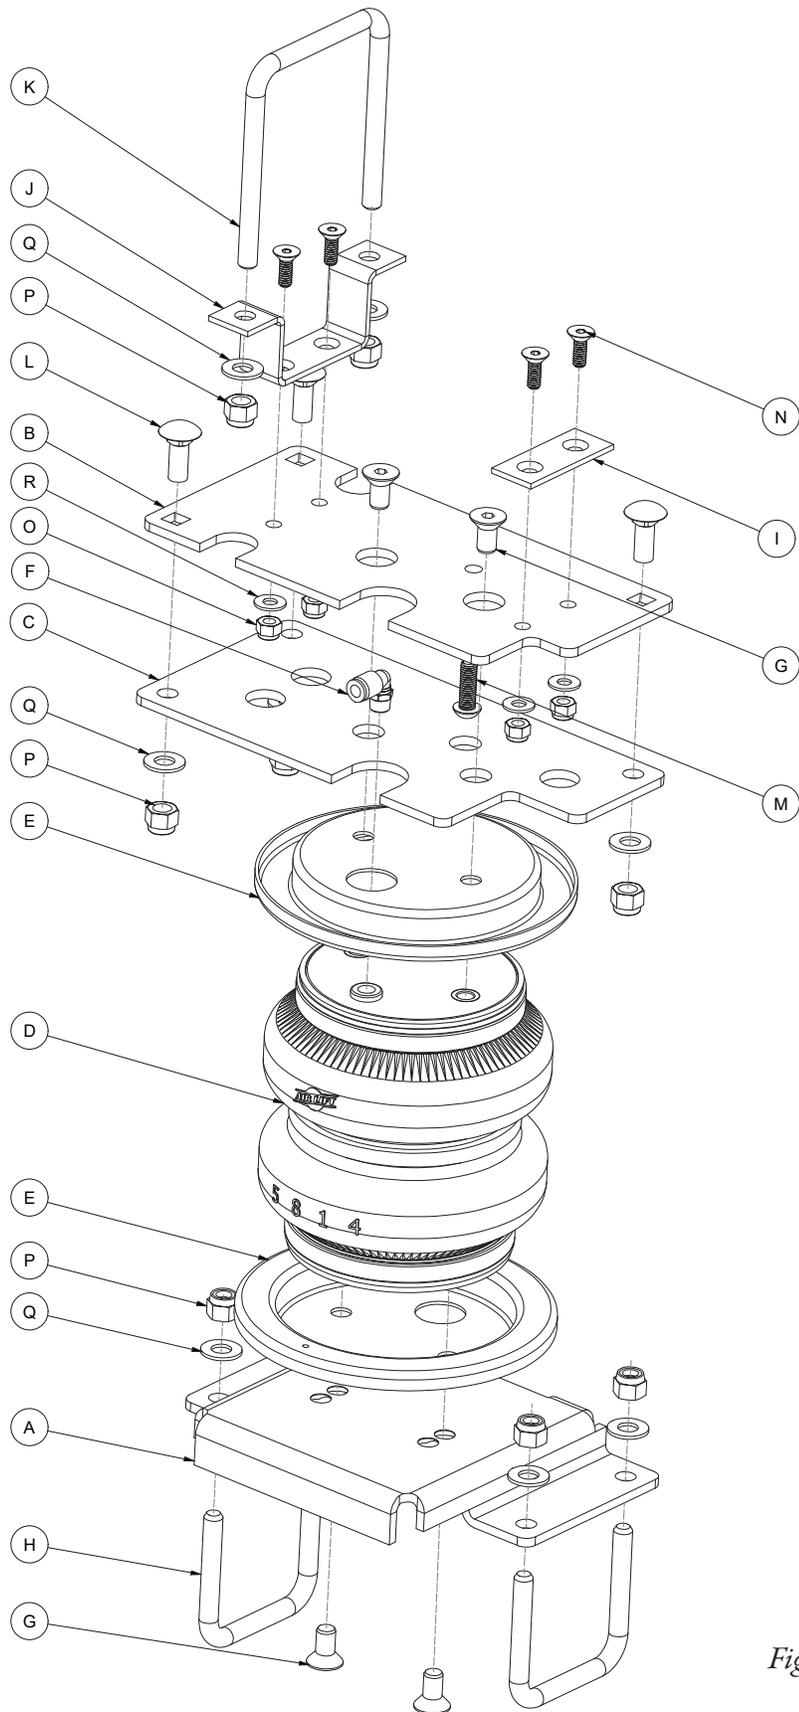

Fig. 1
* These parts are not shown in the System Overview (Fig.1).
- Install a mounting bracket (J) onto the frame bracket (B) using the holes that are adjacent to the large slots in the side of the bracket with the 1/4" flat head screws (N) (Fig. 7). Flip the bracket over and cap the 1/4" flat head screws with 1/4" flat washers (R) and nylon lock nuts (O) (Fig. 8). On the other end of the frame bracket, and on the same side as the mounting bracket, install a spacer (I) onto the frame bracket using the same 1/4" hardware as what was used for the mounting bracket (Figs. 1 & 9). Torque all hardware to 100 lb.-in. (11Nm).